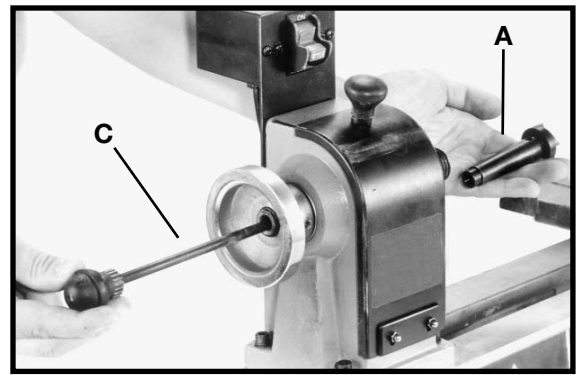

Fig. 11
2. Use the knockout bar (C) Fig. 11 through the hole in the opposite end of the spindle to remove the spur center (A) Fig. 11 from the headstock spindle. **NOTE:** Be careful of the sharp points on the shank spur center.